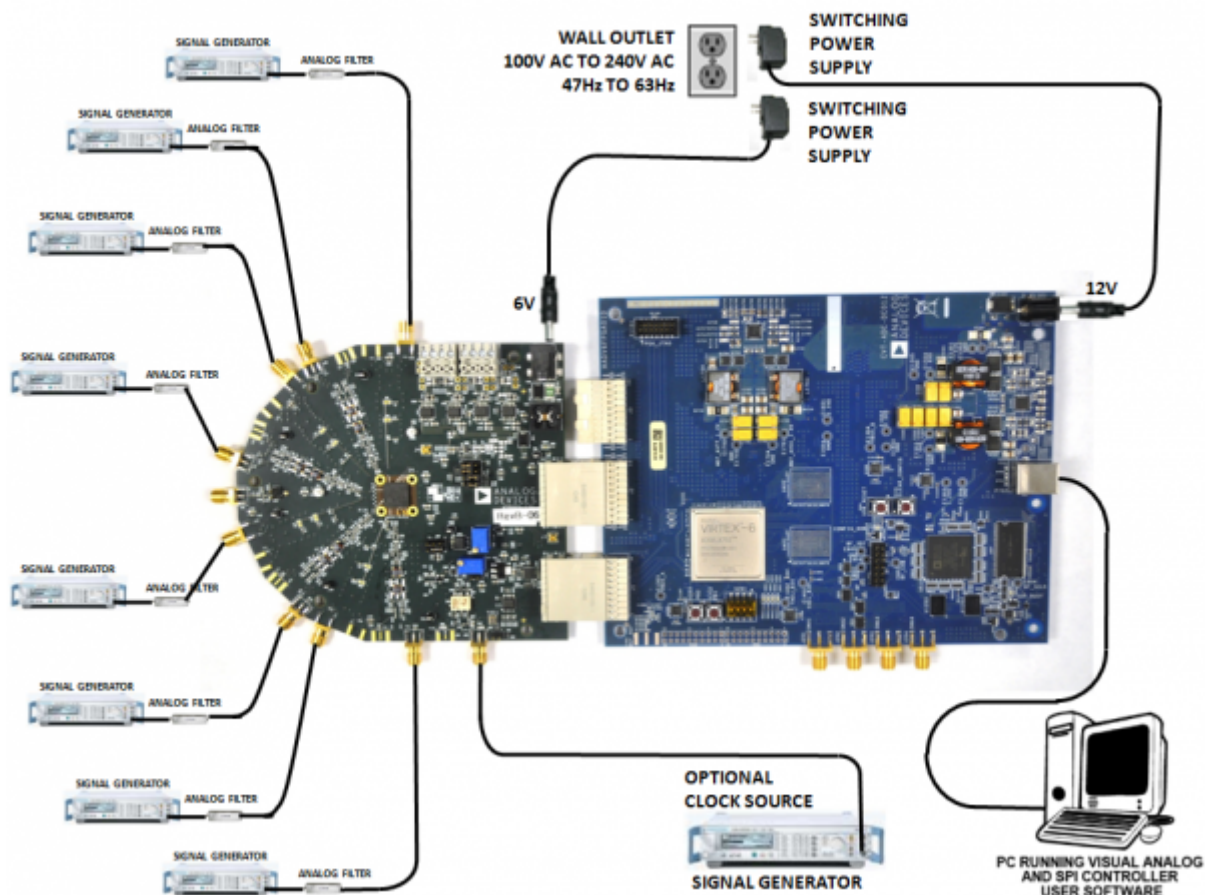

Figure 1. Evaluation Board Connection—AD9681-125EBZ (on Left) and HSC-ADC-EVALDZ (on Right)
1. Connect the evaluation board to the data capture board, as shown in Figure 1.
The evaluation board provides the support circuitry required to operate the AD9681 in its various modes and configurations. Figure 1 shows the typical bench characterization setup used to evaluate AC performance. It is critical that the signal sources used for the analog input and clock have very low phase noise (ideally ~100 fs rms jitter) to realize the optimum performance of the signal chain. Proper filtering of the analog input signal to remove harmonics and lower the integrated or broadband noise at the input is necessary to achieve the specified noise performance.